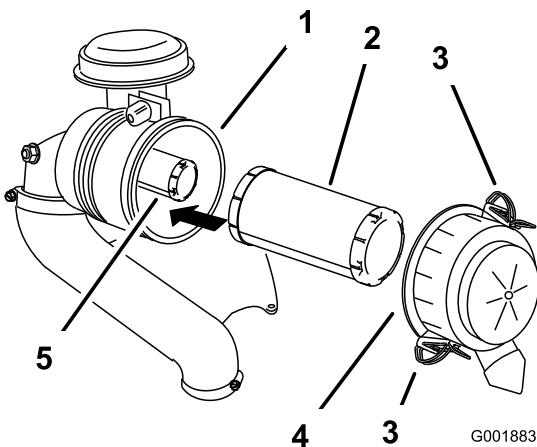

Figure 31
3. Release the latches on the air cleaner and pull the air-cleaner cover off the air-cleaner body (Figure 31).
5. Gently slide the primary filter out of the air-cleaner body (Figure 31).
2. If the inner filter is being replaced, carefully slide it into the filter body (Figure 31).
3. Carefully slide the primary filter over the inner filter (Figure 31).
4. Install the air cleaner cover and secure the latches (Figure 31).